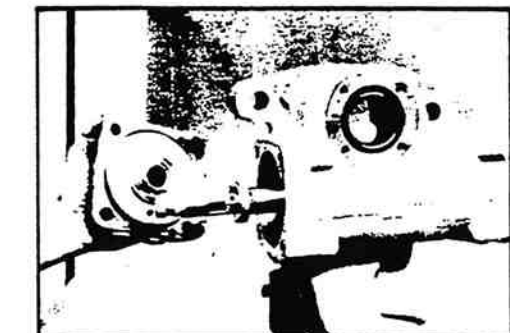

Figure 11-28. Valve Housing Removal.
25. Remove the valve housing (19) (figure 11-28). Some fluid will drain.